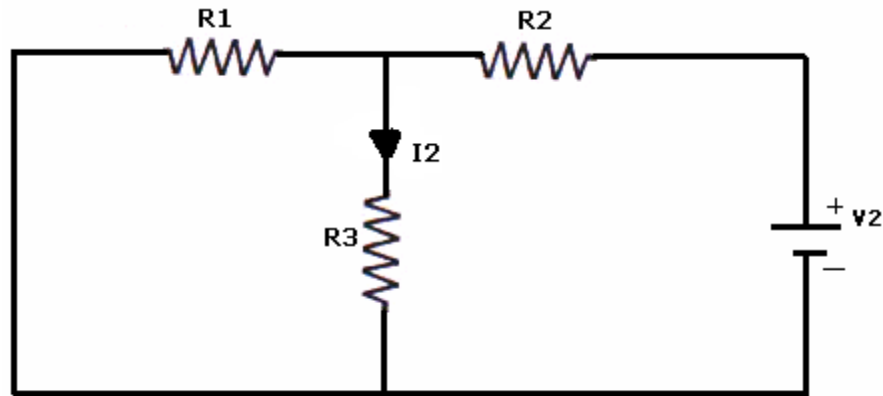

Fig3
5. Draw the Thevenin's equivalent circuit as shown in fig.3
5. Draw Norton's equivalent circuit by connecting  $I_N$  &  $R_N$  in parallel as shown in fig3.